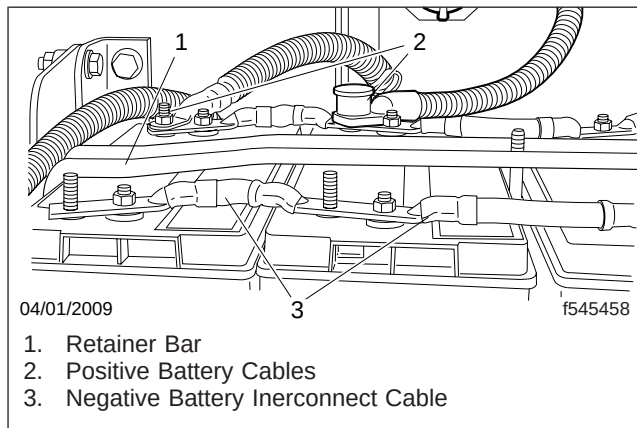

Fig. 1, Battery Assembly
3. For assembly reference, note the locations of the battery positive and negative terminals in relation to surrounding components. Remove the battery cables. See Fig. 1.